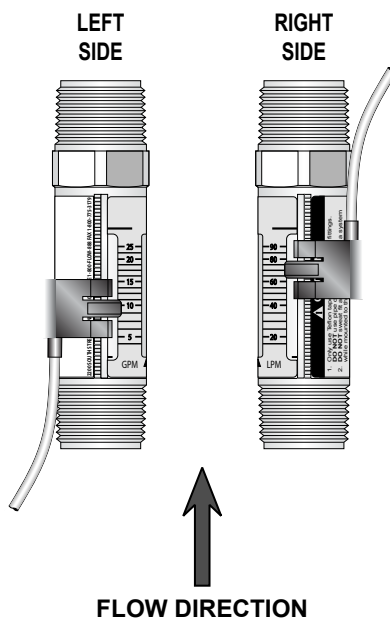

Figure 21: Switch adjustment
1. With the fluid running through the meter, gently move the switch adjustment tab outward until the switch body is free to slide up or down on the serrated rail. See *Figure 21*.